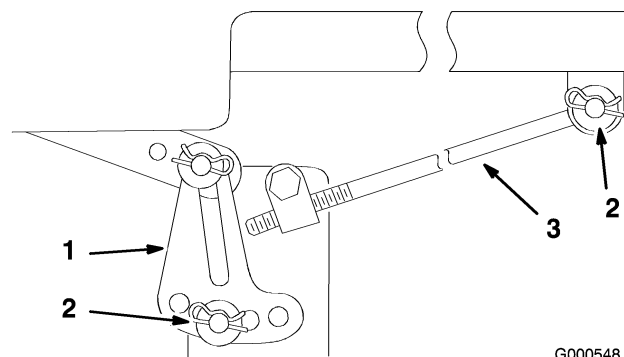

Figure 50
Note: Before removing the mower, make a note for which holes are used in the leveling brackets (Figure 50).
- Remove the hairpin cotter and washer from the adjusting rod (Figure 50) on each side of the mower.
- Remove the hairpin cotter and washer at the mower leveling brackets (Figure 50) on each side of the mower. Note which hole the leveling bracket is mounted in for future installation. Slide the brackets off of the mounting pin.
5. Attach the adjusting rod to the machine with the washer and hairpin cotter (Figure 50) on each side of the mower.
6. Slide the leveling brackets onto the mounting pins and secure them with the washers and hairpin cotters (Figure 50).